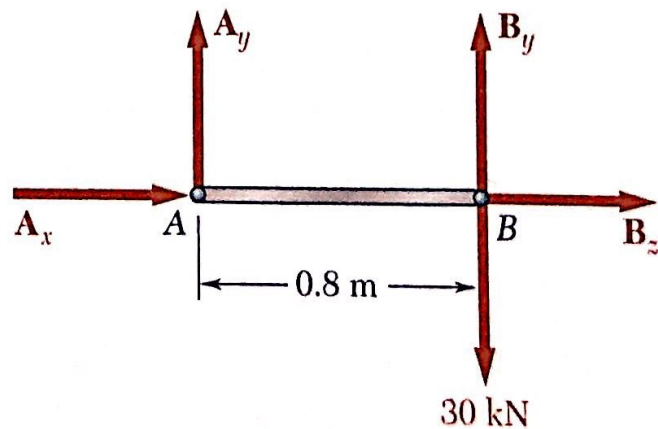

Fig. 1.3
- Considering the free-body diagram of the **boom AB** (see in Fig.1.3), then we can use three equations again and write this: